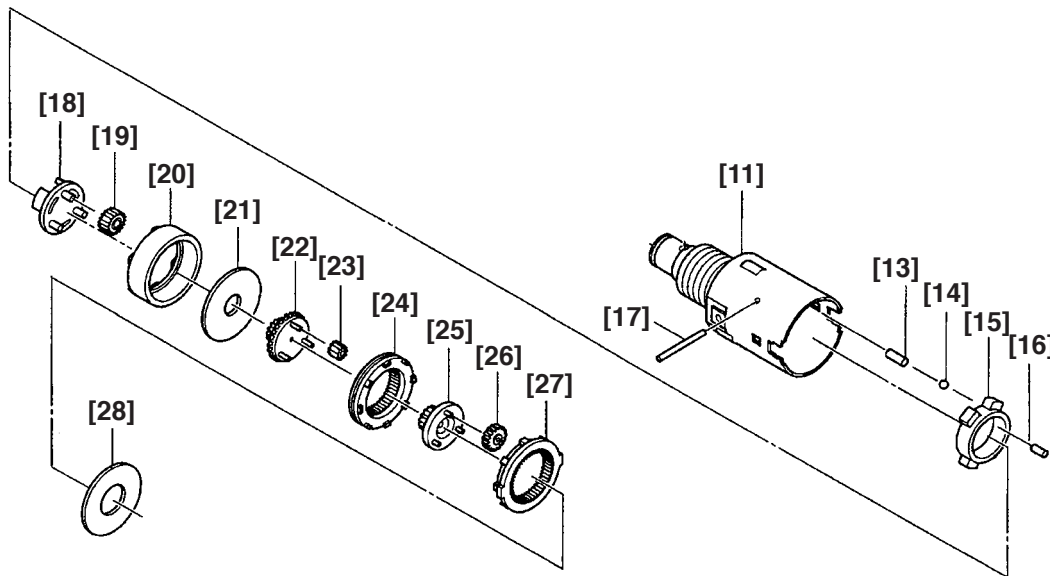

Fig. 6
(b) Mount the parts from the Pin Set (3 pcs.) [13] to Washer (A) [28] to the part assembled in the following (2) in order. (See Fig. 6.)
(1) Mount the Pin Set (3 pcs.) [13] and the Steel Ball D3 [14].
(2) Pay attention to the mounting direction of the Ring Gear [20], Carrier [18], Pinion (C) [22] and Pinion (B) [25]. (See Fig. 6.)